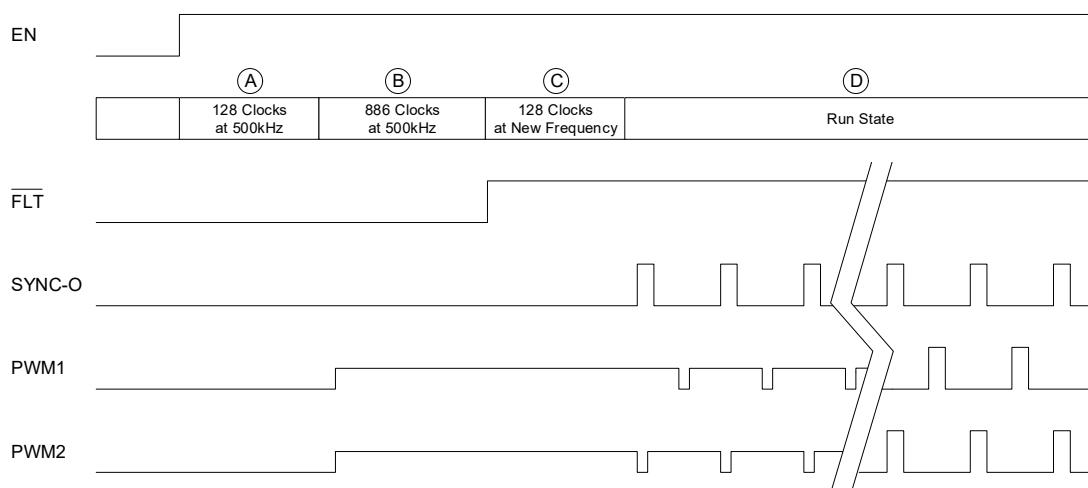
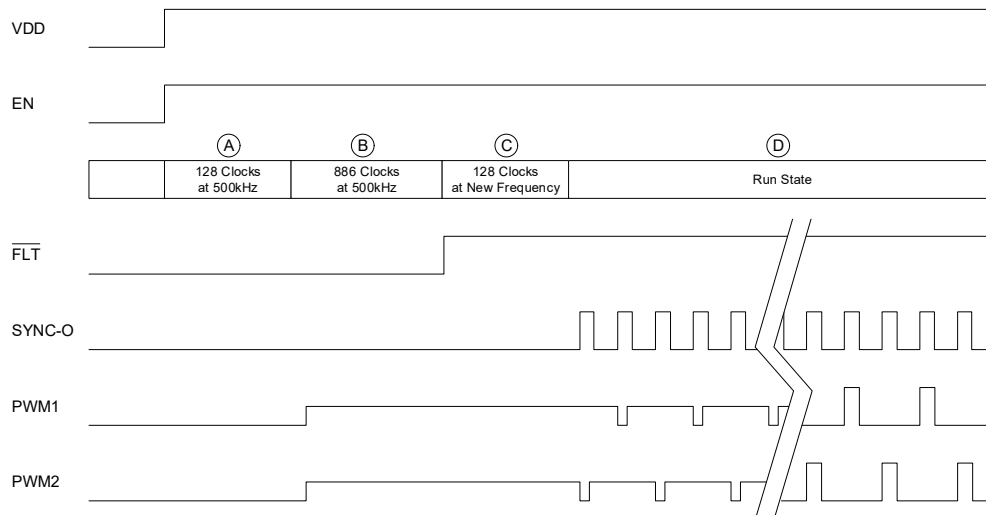

Figure 47. Start-Up Timing Diagram (R_{SYNC-O} = OPEN)
Figure 48. Start-Up Timing Diagram ($R_{\text{SYNC-O}} = 100\text{k}\Omega$)
When the ISL73847SLH first powers up, it goes through several states before boot refresh and soft-start. After VDD has crossed the rising UVLO threshold, the oscillator waits for 128 clock cycles at 500kHz before allowing the digital core to enter its configuration state. The configuration state lasts 886 clock cycles at 500 kHz. When the digital core completes its configuration, it signals the oscillator to switch to the frequency set by the FS pin or SYNC-I. After an additional 128 clock cycles at the new frequency, boot refresh pulses commence, followed by soft-start. Figure 47 and Figure 48 illustrate the start-up sequence.
During states A and C in Figure 47 and Figure 48, the oscillator blanks the clock signal to the digital core. Therefore, the oscillator has time to stabilize its frequency before entering the configuration state (B) or run state (D).